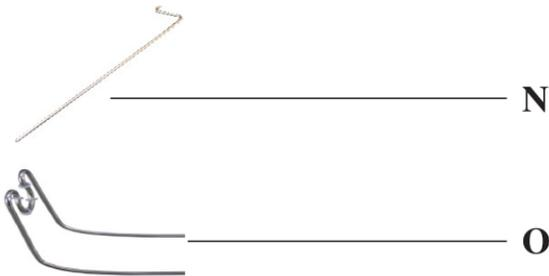

Fig.4
6.3.6 Insert the tube of ULTRASURGERY cord to the cord connector on the device (Fig.4—Ref.P);
6.3.7 Put the handpiece on the support (Fig.4—Ref.O);